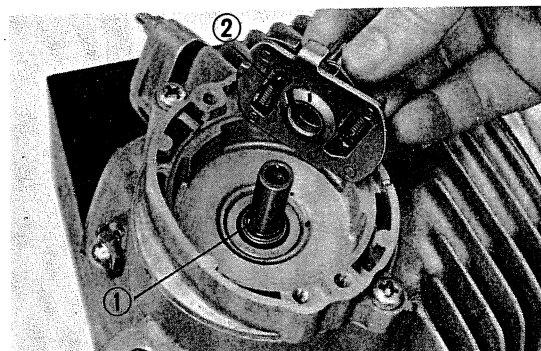

Fig. 47 Advance installation
- 11) Reinstall the spark advance. (Fig. 47)